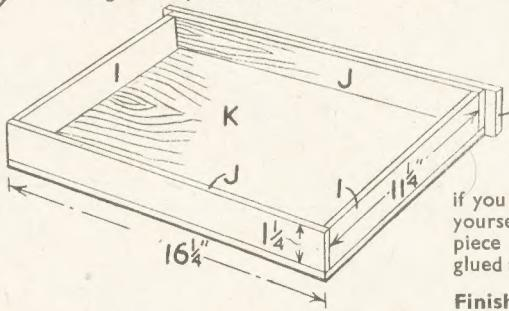

Fig. 5—How the drawer is made
The drawer is first made up as a shallow box of  $\frac{1}{2}$ in. material and to the measurements shown in Fig. 5. The short sides (I) are glued and pinned, with light fretpins, between the longer pieces (J). The floor (K) can be of plywood or composition board  $\frac{1}{4}$ in. thick. It will measure 16½ ins. by 11½ ins. It could also be constructed from two or three narrow boards to make up the total 11½ ins., so long as they are securely pinned to the sides.